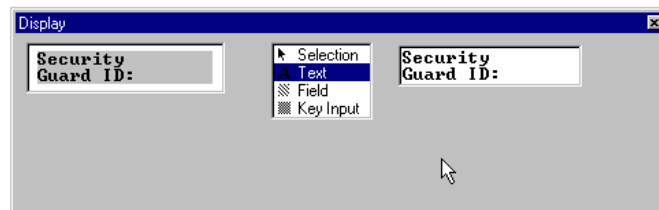

Figure 2-47 Display - Guard ID: Displayed
6. Press <Enter>; **Guard ID:** is shown on the second line in the display area (Figure 2-47).